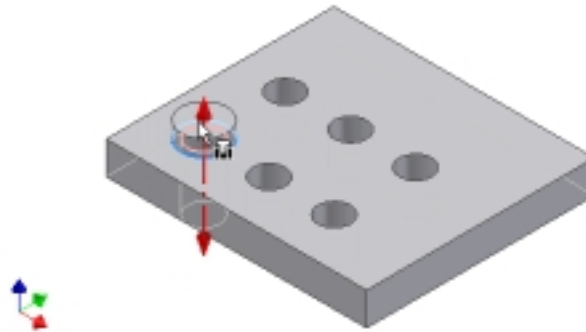

Figure 3-39
16. Release the Alt key and drag the component to the circular edge of the pattern base indicated in Figure 3-39.